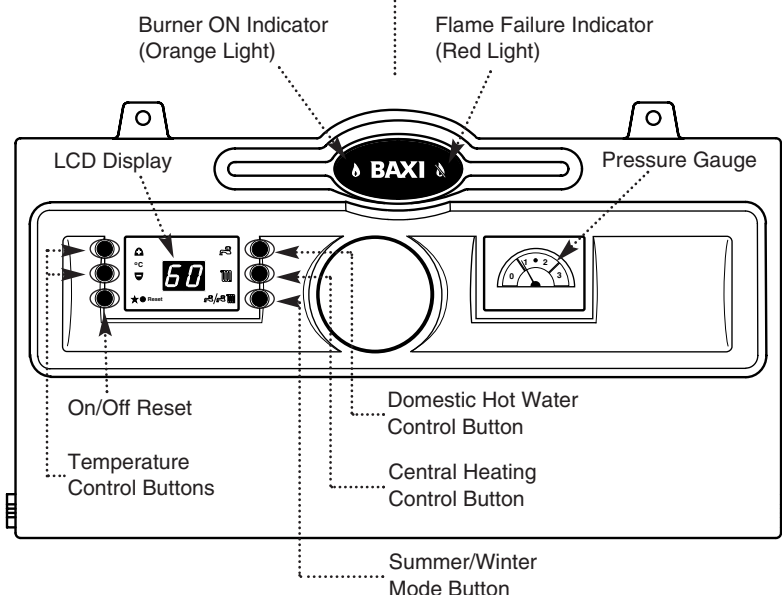

Fig. 2
3. Press the Summer/Winter mode button (☀/❄) (Fig. 2) until the required setting is shown on the Control Panel
6. The orange indicator on the badge will light when the boiler is operating and the main burner is on (Fig. 2).